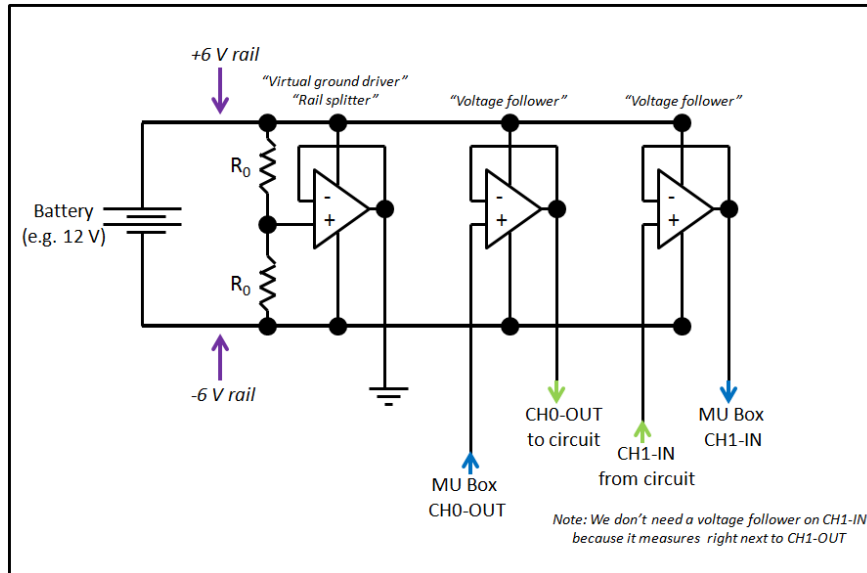

Figure 4: Circuit to power the op-amps. We split the battery voltage to power the op-amps using a voltage divider (e.g. $R_0 = 10 \text{ [k}\Omega\text{]}$).
Your breadboard will have two main interconnected circuits: A circuit to power your op-amps, and a circuit to measure a test impedance. Please study both parts of the circuit (Figs. 4 and 5) before you begin, so you can plan you breadboard accordingly.
1. Op-Amp circuit: Build the Op-amp breadboard that we will use to measure the loudspeaker impedance, as described below and shown in Figure 4. The purpose of the Op-amps is to isolate the measurement from the finite impedance of the MU box. The circuit diagrams of the MU box are provided in the 'DOC' folder of the software package. Based on these circuit diagrams, one may determine the Thévenin source impedance of the output voltage, and the input (load) impedance of the input circuits. There are two critical op-amps, one for output and one for input. The first input does not need an isolation Op-Amp since the output of the the first Op-Amp is zero ohms.
- (b) Drive the circuit from CH0-OUT of the MU-box. *NOTE: If you do not use an Op-amp with a low impedance output (0 [ohms]), as described in Fig. 4, your results will not be as good as they could be.*